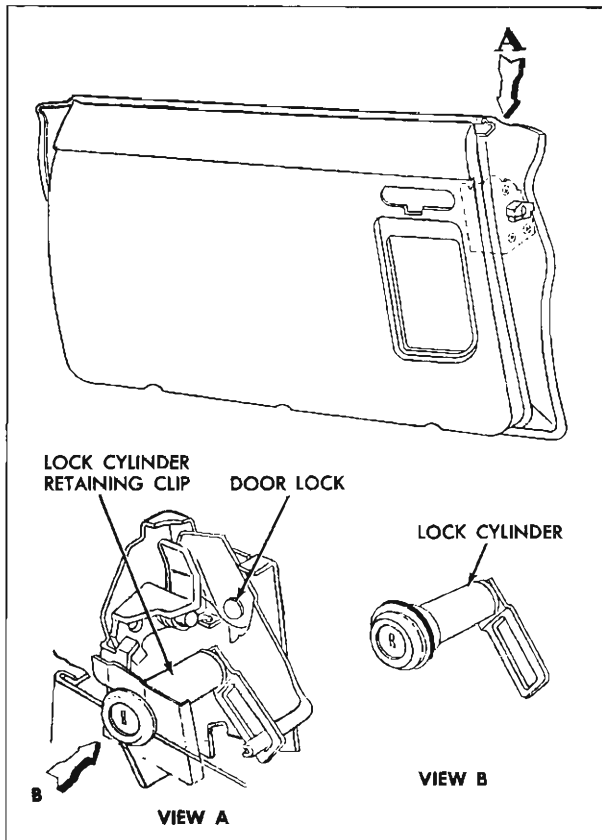

Fig. 12-26 Front Door Lock Cylinder Removal
2. With a suitable tool, through inner panel access hole slide lock cylinder retaining clip forward sufficiently to allow removal of cylinder, then remove cylinder and gasket (Fig. 12-26).